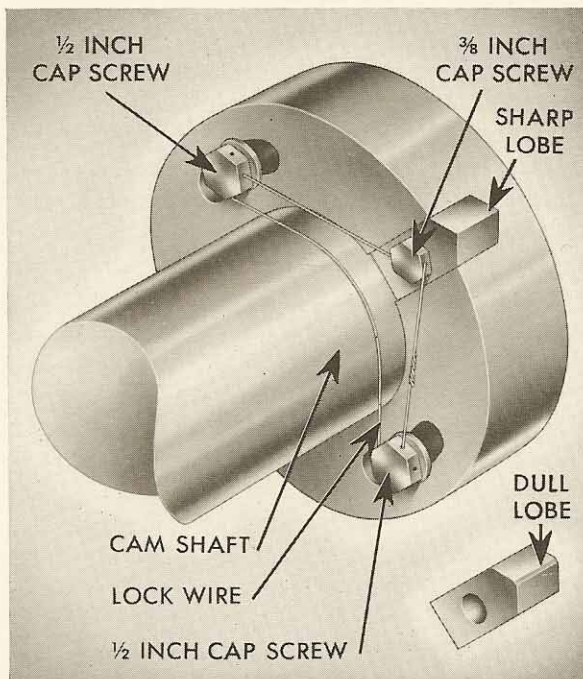

FIGURE 10-9
- A. Remove the pit door and cut the lock wire on the fuel cam. See Figure 10-9.
- A. Remove the pit door and cut the lock wire on the fuel cam. (See Figure 10-9.)